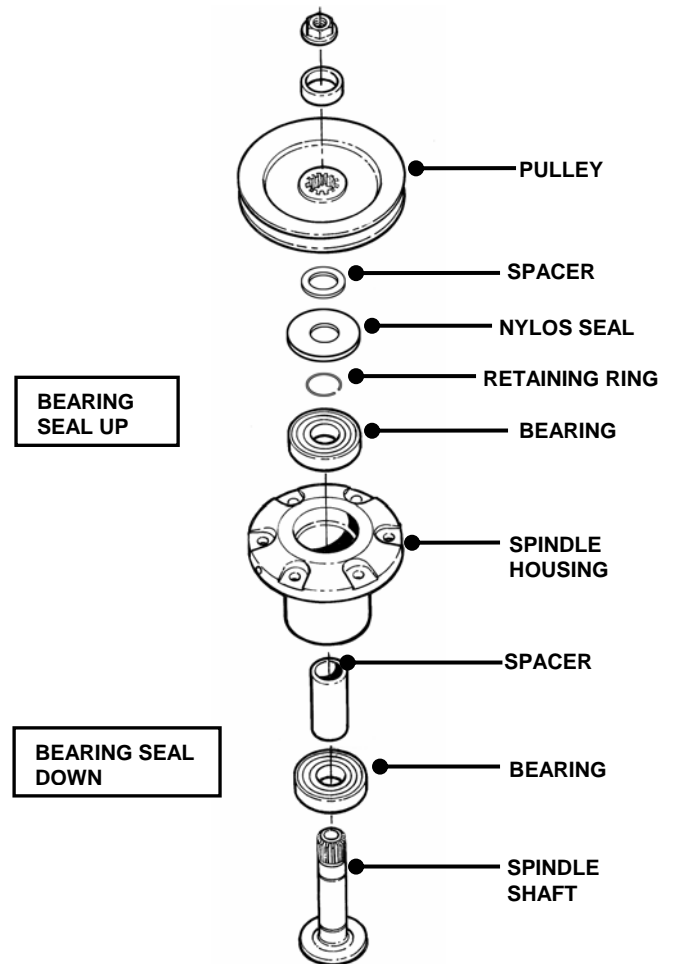

FIGURE 5.8
4. Top and bottom bearings are now removable. Pull out on inner race to slide bearing from housing. See Figure 5.8.